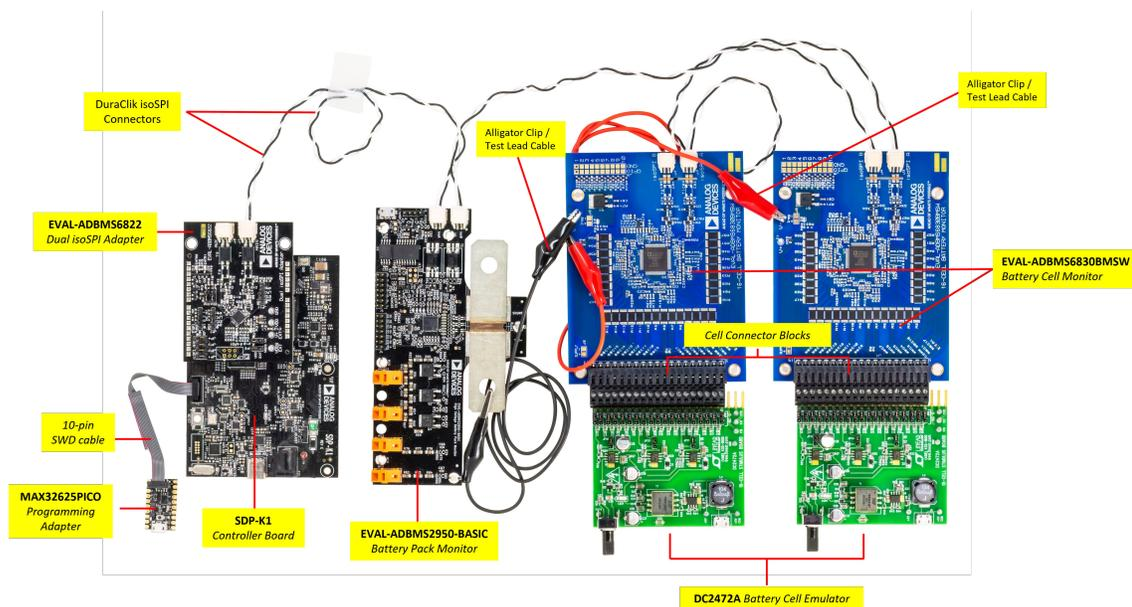

Figure 1. AD-CELLPACKBM-SL Kit Contents / Complete Daisy Chain Setup
For easy identification of the components included in the kit, refer to Figure 1.
4. Plug the screw-terminal block(s) into the cell voltage connectors of the DC2472A battery emulator board. Note that the last three terminals of the DC2472A must be left hanging (see Figure 1).
- Connect the hardware using the DuraClik isoSPI cables, following the instructions in earlier sections. Refer to Figure 1 to see the actual daisy chain setup.
- Using the black alligator clip cable, connect the **V-** pin of the second EVAL-ABMS6830BMSW to the **BATT-** port of the EVAL-ADBMS2950-BASIC (see Figure 1).